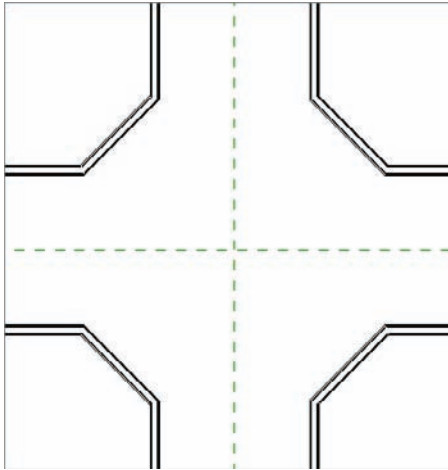

FIGURE 2.47 The open corridor
5. Repeat the process for the other three walls. You should now have an open central area for your corridor, as shown in Figure 2.47.